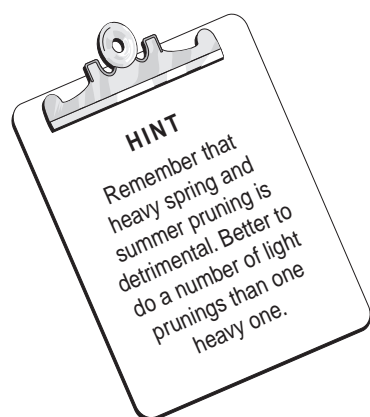

Figure 17. *How to summer-prune laterals*
- Do not allow old fruiting wood in the body of the tree to develop into heavy branches. Where potentially fruitful new laterals have been produced along an old lateral, remove wood outside the selected new growth (Figure 17). Where there is no new growth, prune the old spent wood to a stub carrying two or three buds. These generate growth in the following few months and fruit the next season.